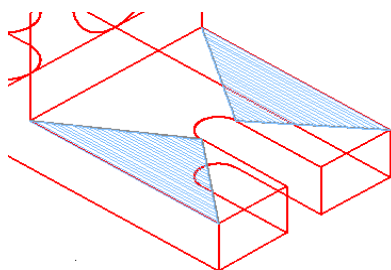

Figure Step 14
Step 14 On layer Surface, use the RULESURF command to draw surfaces as shown in Figure Step 14. Change the layer of the surfaces to layer Surface off.